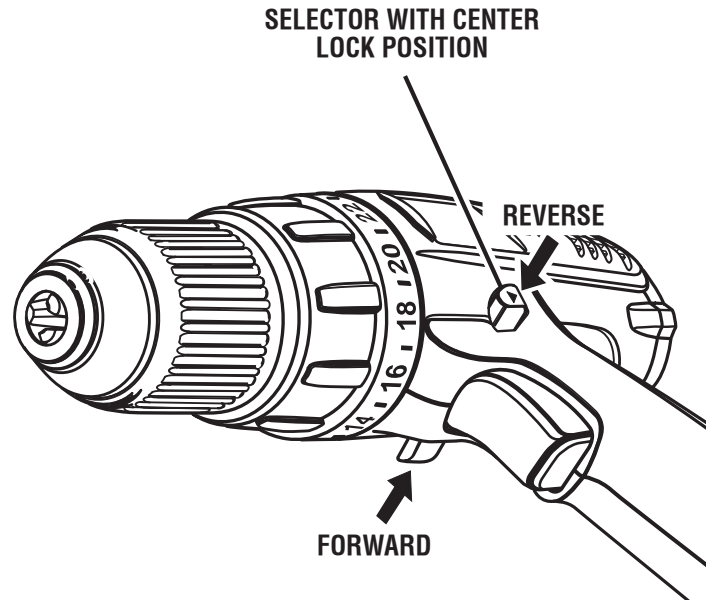

Fig. 4
- Lock the switch trigger on the drill by placing the direction of rotation (forward-reverse) selector in center position. See Figure 4.
- Lock the switch trigger on the drill by placing the direction of rotation selector in center position. See Figure 4.
See Figure 4.
- Lock the switch trigger by placing the direction of rotation selector in center position. See Figure 4.